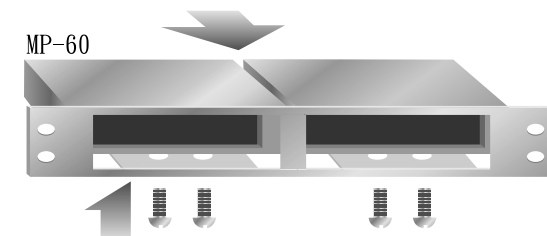

Fig. 4
1.Mount the two connected R-1000 or R-2000 into an optional MP-60 panel , as shown in Fig. 4.